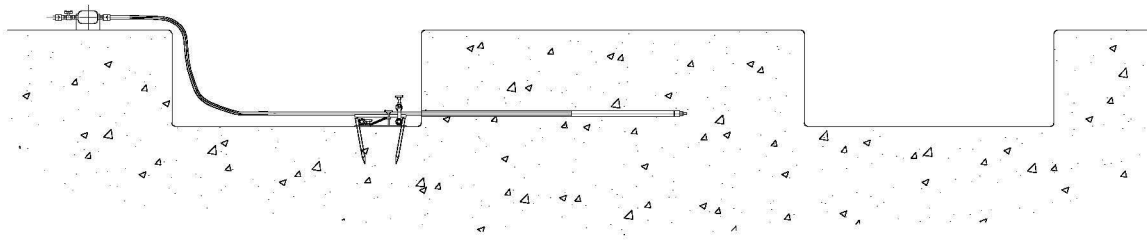

Figure B14 - Launching the soil displacement hammer
3. This process should be rechecked until the mole is $\frac{2}{3}$ ds of its length into the bore, after this the direction of the soil displacement hammer cannot be changed and a new launch will be required if the direction is not correct (Figure B14).